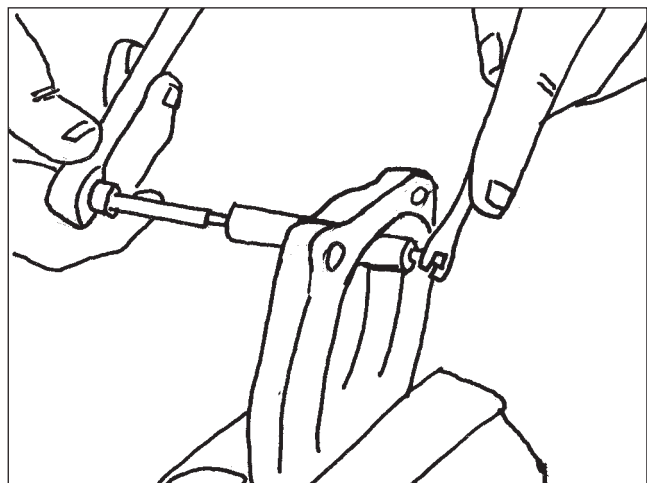

Figure 41
5. Insert the screwdriver into the slotted head of the plunger body to hold the plunger body in place. Use the locking pliers to turn the plunger flange off the plunger body, while holding the plunger body in place with the screwdriver. (**Figure 41**).